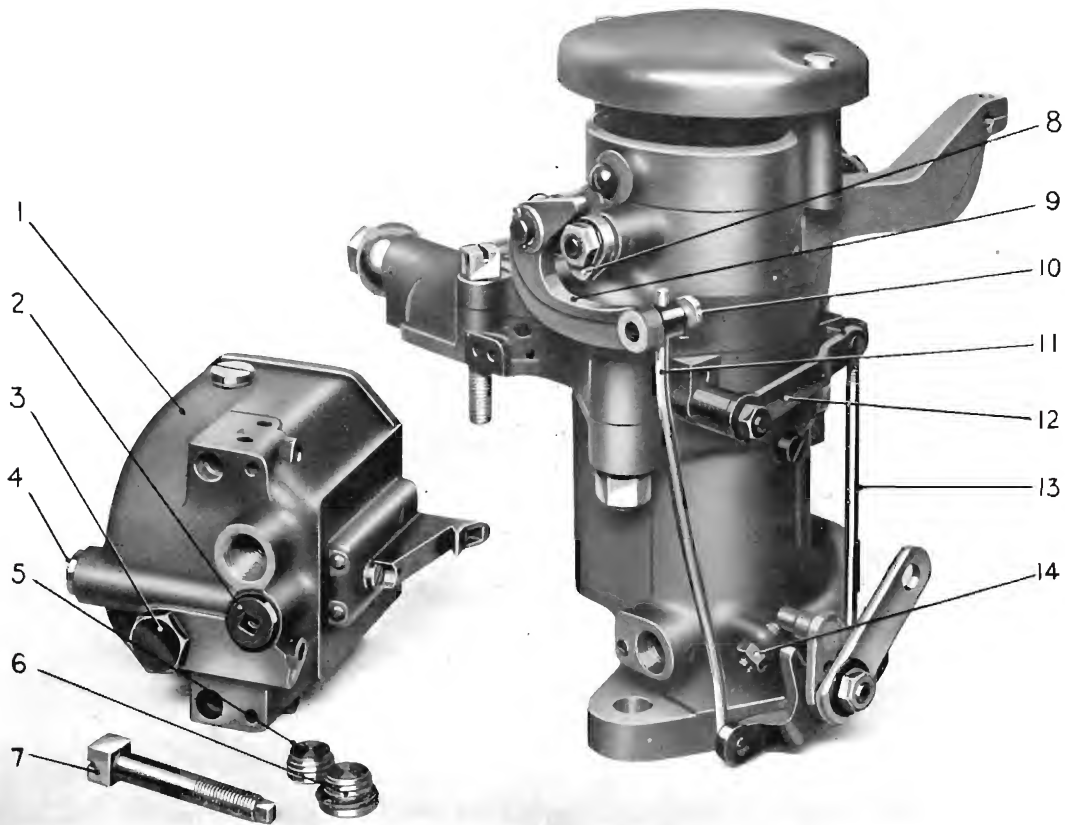
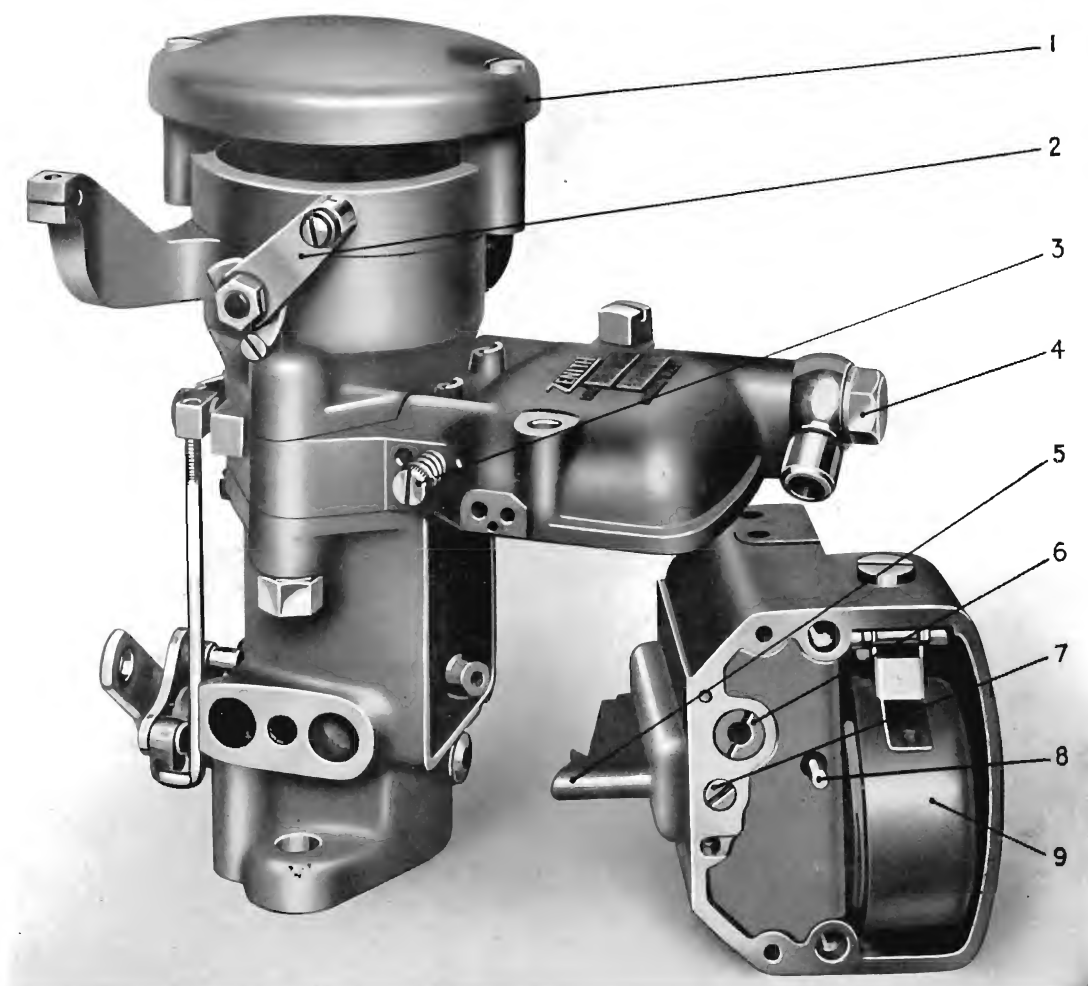

Fig. 7.
Fig. 8.
The Zenith 36.VE.1 downdraught carburetter is provided with an economy device which operates at normal running speeds. The device consists of an economy jet (4), Fig. 7, which restricts the flow of petrol to the main jet. When the throttle is more fully opened a valve (8), Fig. 8, is operated and the petrol has a free flow to the main jet. The main and compensating jets (2) and (5), Fig. 7, are situated in the base of the carburetter bowl, the economy jet (4) is in the side and the slow-running jet (7), Fig. 8, is in the top. The petrol pipe union (4) is provided with a gauze filter.
To remove the main, compensating and economy jets take out the plugs (2), (4) and (6), Fig. 7, and the jets can be removed. One of the screws (7) securing the bowl is provided with a square end and can be used with a spanner to unscrew the jet plugs and
jets. To avoid the possibility of wrong replacement the jets have different threads. The slow-running jet (7), Fig. 8, can be removed with a screwdriver.
This adjustment should be carried out with the engine warm. The slow-running jet (7), Fig. 8, should not be altered and in any case should be the smallest that will give satisfactory starting and slow running.
air-bleed screw (3), Fig. 8, and the throttle stop screw (14), Fig. 7. Careful adjustment of these two screws will give satisfactory slow running. Too rich a mixture will cause the engine to hunt and a deposit of soot will form on the plug points. Too weak a mixture will cause an irregular misfire and make starting difficult.
The strangler is interconnected with the throttle so that when the strangler is closed the throttle is opened the correct amount for easy starting. The strangler is spring loaded and freely pivoted on a spindle in the main air intake. It is connected to the throttle control by an adjustable rod (11), Fig. 7, the lever (9) and the cam (8) and is operated from the cab. The wings of the butterfly are of unequal sizes, so that as the engine speeds up and the air velocity increases the strangler is automatically opened against the spring and the engine cannot receive an unduly rich mixture. When the strangler is closed by pulling out the control, the cam (8) operates the lever (9) and opens the throttle the correct amount. The rod (11) can be adjusted to give the correct throttle opening by slacking off the clamp screw (10).
For shortage of fuel remove the screw (4), Fig. 8, from the petrol pipe union and clean the filter. Popping back may be caused by water or a choked main or compensating jet; remove the jets and clear by blowing through them.